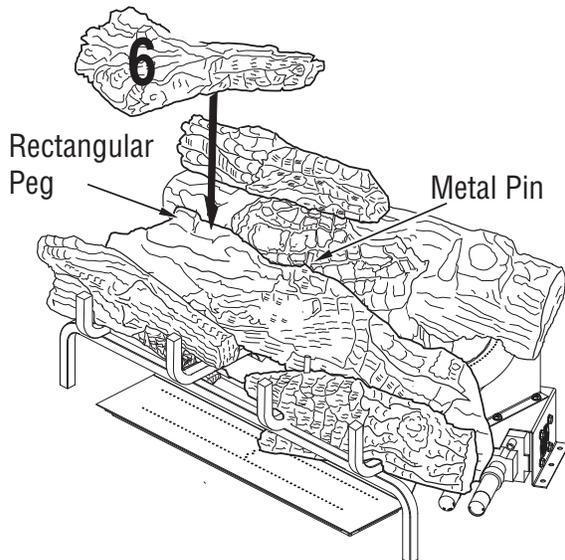

Figure 27 - Installing Log # 6
6. Place the left top forked log (#6) on the top of the middle log (#2). Match the rectangular projection on top of the middle log (#2) with the rectangular hole on the bottom of the left top forked log (#6). Match the metal pin on the top of the middle log (#2) with the round hold in the bottom of the left top forked log (#6). See **Figure 27, Page 17**.